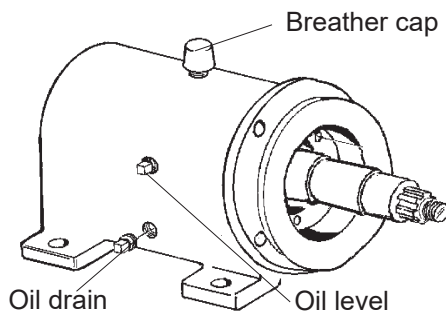

Figure 25
7. Drain the oil from the gear case (Figure 25).